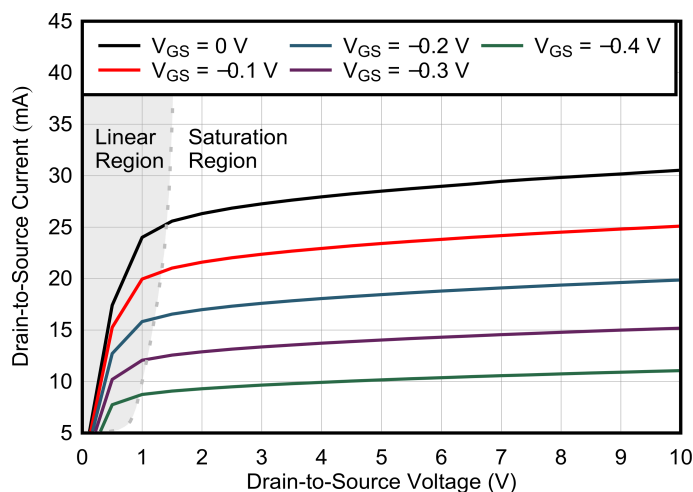

图 8-1. V_{DS} vs I_{DS}
- For $V_{GS} > V_{GSC}$: Two modes of operation can exist depending on V_{DS} . When V_{DS} is less than the linear (saturation) region threshold (see Figure 8-1), the device operates in the linear region, meaning that the device behaves as a resistor connected from drain-to-source with minimal variation from any changes in V_{GS} . When V_{DS} is greater than the linear (saturation) region threshold, I_{DS} has a strong dependence on V_{GS} , where the relationship is described by the parameter g_m .